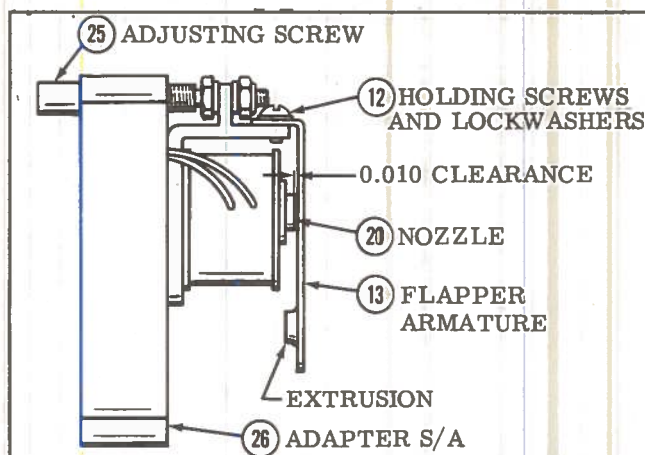

Figure 3. Pilot Stage Servo Valve Adjustment Locations
Be careful when installing flapper armature (13). The securing screws (12) extend thru the frame (22) and could break the insulation on the coil. See Figure 3.
6. Place a 0.010 shim between the flapper armature (13) and the nozzle (20) while tightening the two holding screws and lockwashers (12). See Figure 3.